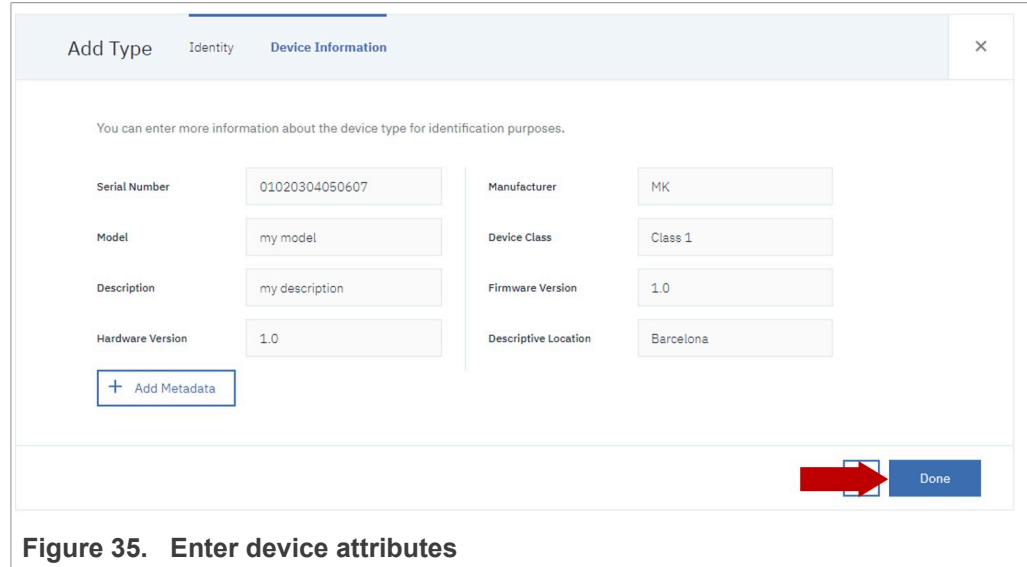

Figure 35. Enter device attributes
- 3. Optionally, enter device type attributes and metadata and click **Done** as shown in Figure 35: